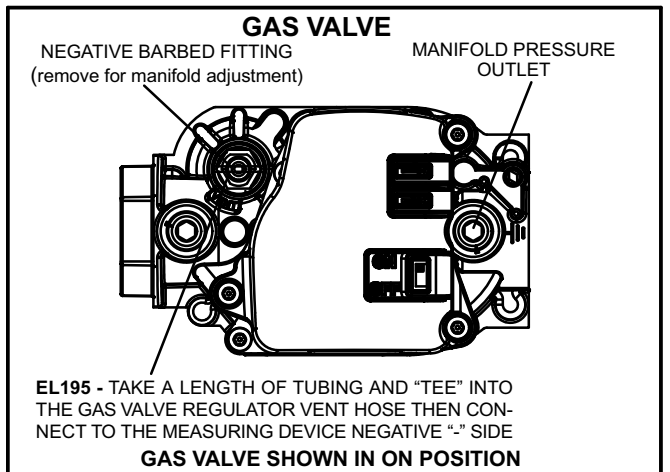

FIGURE 3
- 6 - Move gas valve switch to **OFF**. See figure 3.
- 7 - Wait five (5) minutes for any gas to clear out. If you then smell gas, **STOP!** Immediately call your gas supplier from a neighbor's phone. Follow the gas supplier's instructions. If you do not smell gas, go to the next step.
- 8 - Move gas valve switch to **ON**. See figure 3.
- 1 - Connect test gauge to manifold pressure tap (figure 3) on gas valve.
- 4 - If necessary, make adjustments. Figure 3 shows location of adjustment screw.
When testing manifold gas pressure, use the 1/8" N.P.T. plugged tap (manifold pressure outlet) located on the gas valve to facilitate test measuring device. See figure 3.
- 7 - Remove the negative barbed fitting as shown in figure 3 and using a screw driver make adjustment to increase or decrease manifold pressure.